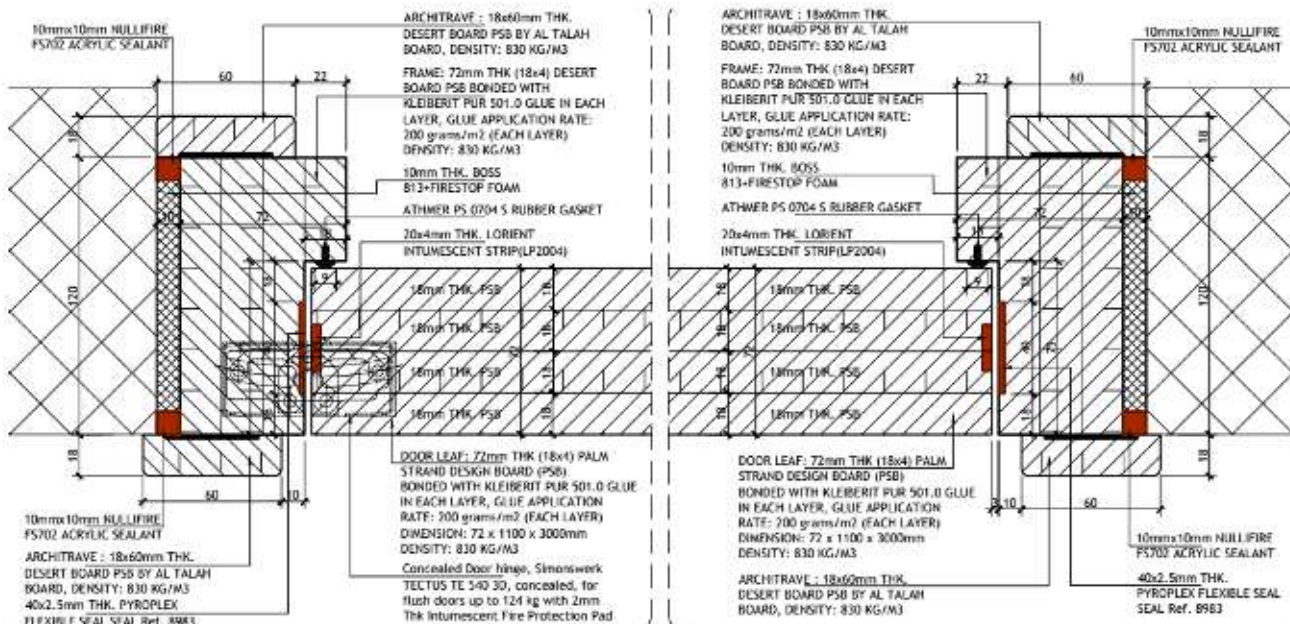

Figure 1. Door frame profile and door leaf core construction with sizes for both doors.
The door frame, of 120x72mm cross-section, was made of 4 layers of 18 mm Desertboard Palm strand board manufactured by Al Talah Board, with a density of 830 kg/m³. The door stop of 45x18mm of the same material and density was created within the door frame cross-section (see Figure 1). These layers of PSB are join using Kleiberit pur 501.0 adhesive, at an application rate of 200g/m².
The architrave consists of 18x60mm thick Desertboard PSB with a density of 830 kg/m³, was fixed on the exposed and unexposed sides as shown in the figure 1, respectively.
- 1 pc of 40 x 2.5 mm Pyroplex flexible seal (Part no. 8983), produced by Pyroflex – see figure 1 and photo 1 – door frame rebates.
- 1 pc of 20 x 4 mm Intumescent strip (LP2004), produced by Lorient, see figure 1 and photo 2 – door leaf edges.
- 1 pc of 11x7mm Rubber gasket (PS-0704-S), produced by Athmer – see figure 1 and photo 1 – in the door frame rebate.